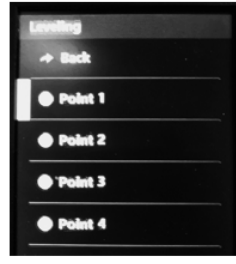
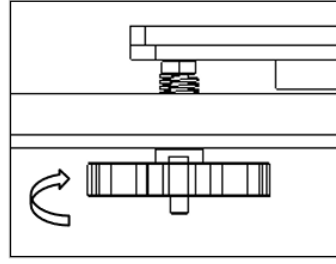

Fig 2
Fig 3
Step 3: Do "Prepare>> Bed leveling>> Point 1" on control panel(Fig 2), the nozzle will go to the corners of the bed, loosen the hand nuts under the hotbed (Fig 3) and let the nozzle almost touch the hotbed (Fig 4). Continue to do "Point 2/3/4" until all of the 4 corners has been leveled.